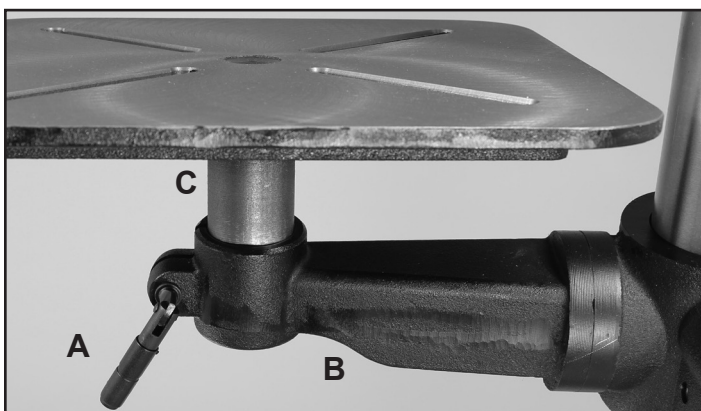

FIG. 4
3. If not pre-installed at the factory, install the small Locking Lever (#18A, Fig. 4, A) onto the front joint of the Table Support Bracket (#17A, B). FIG. 4.
4. Insert the table post (C) into the table support bracket (B) as shown in Figure 4. Tighten the locking lever (A) to secure the table in position.